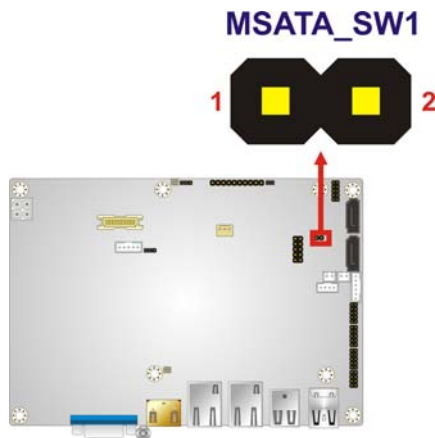

Figure 3-7: mSATA/PCIe Mini Mode Selection Jumper Location
- Jumper Location:** See **Figure 3-7**